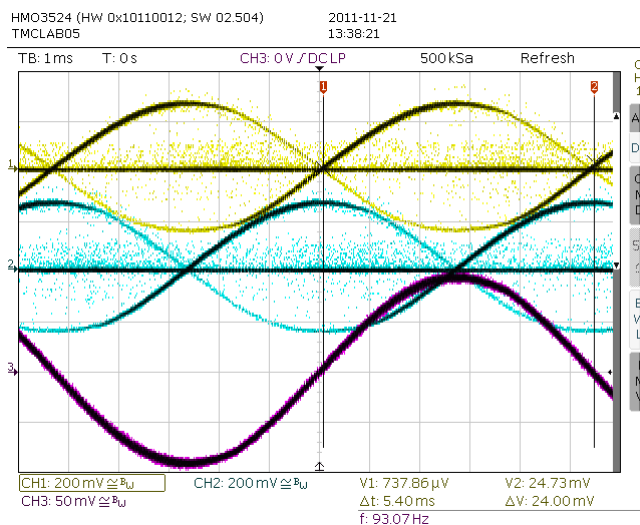
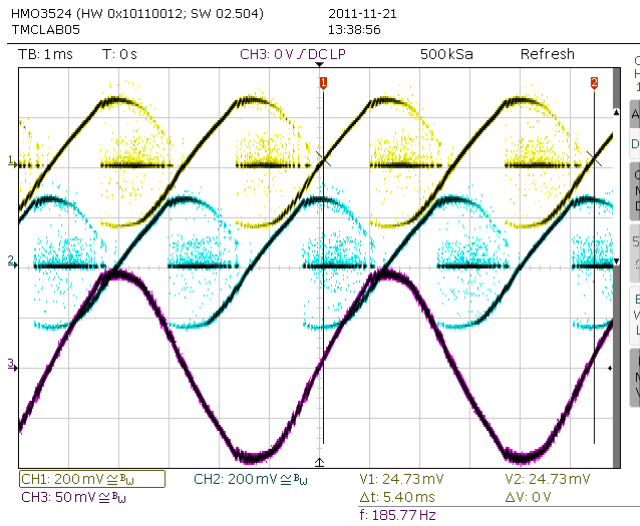
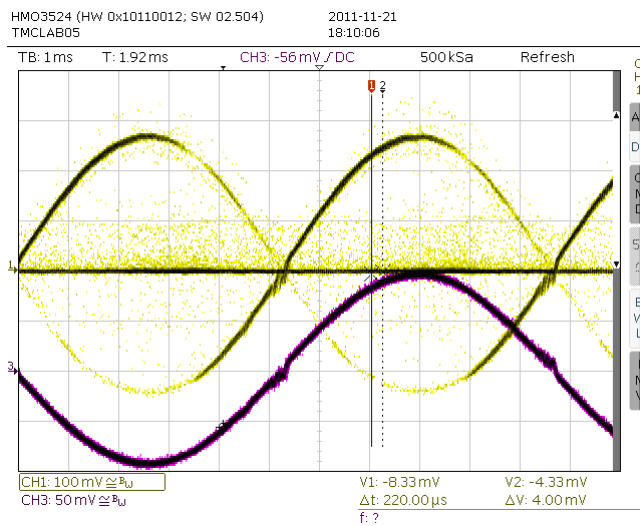

figure 1: Current waves: CH1 & CH2: Sense resistor voltages, CH3: Current probe on coil A
figure 2: Velocity too high – motor current cannot follow
figure 3: Distortion caused by too low blank time setting TBL
You might want to check the current waveform using an oscilloscope. The oscilloscope should show a pure sine wave as shown in figure 1. In case, the sine wave is distorted like shown in figure 2, the motor velocity is too fast, or the supply voltage is not high enough. A distortion as shown in figure 3 is a hint for a too low blank time setting. Increase TBL by one. Other distortions are a hint to a layout problem.
At high velocity, the motor resonance must be kept low, in order to maintain torque as high as possible. Microstep waveforms play a reduced role, as the waveform cannot be maintained in this velocity range anymore (see figure 2), getting worse with each increase in velocity. Fullstepping sometimes brings a few percent increased motor torque. For high velocity behavior, it is more important to operate the motor with its application specific load or in its application environment, but you can do first tests by braking the motor with your fingers, in order to assess its torque before it stalls.
4. Figure out a velocity threshold *VHIGH* for switching to fullstepping. The threshold can be determined using an oscilloscope and finding the velocity, above which the microstep sine wave cannot be maintained, as shown in figure 2, or, by assessing motor noise and vibration.